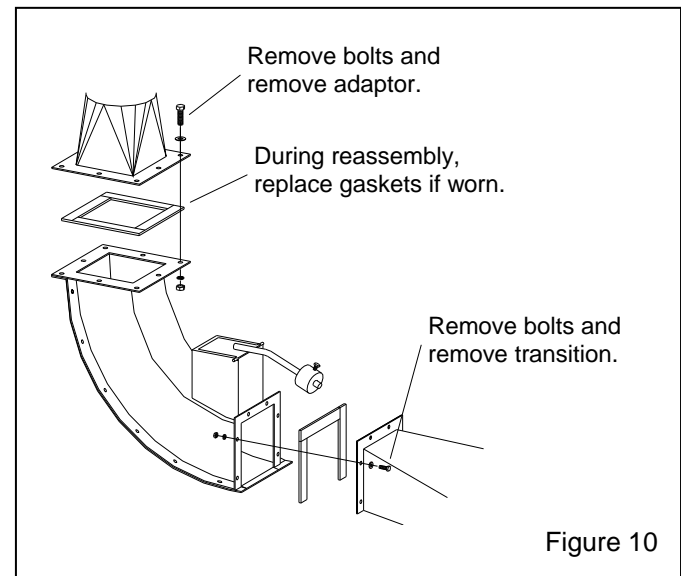

Figure 10
12.3 Transition Elbow Wear Plate, Figures 10 and 11
12.3.1 Remove the bolts securing the top adaptor and remove the top adaptor, as shown in Figure 10. Remove the flex hose if necessary.